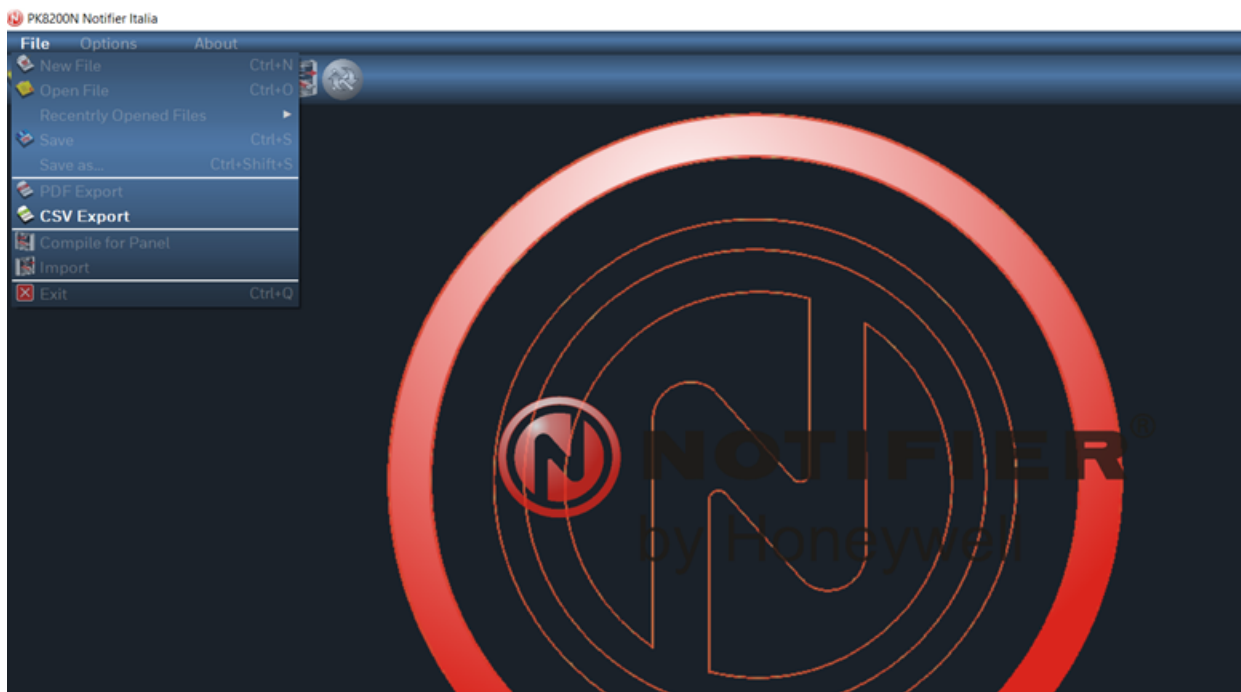

Figure C-76: Configuration File Export Into CSV Format
- Now export the file into CSV format as shown in Figure C-76: Configuration File Export Into CSV Format